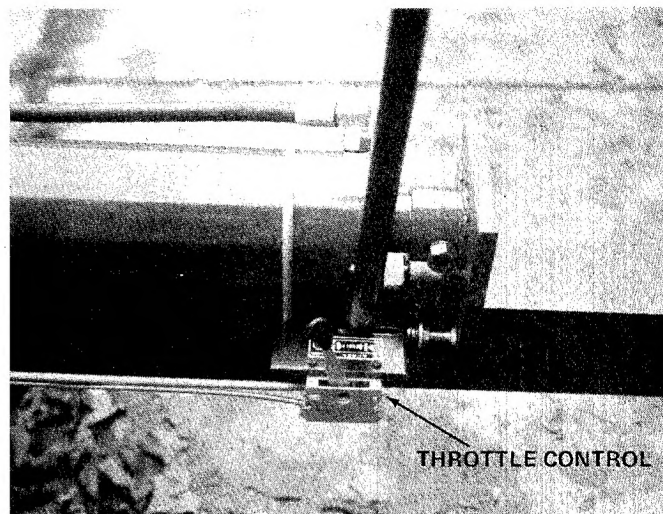

FIGURE 17
1. Place control lever (on beam) in run position. See figure 17.
1. Move control lever to STOP position. See figure 17.